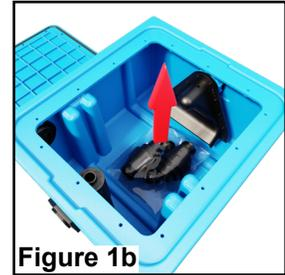

Figure 1b
- Remove the hardware bag and accessory bag from the unit. **Figure 1b.**